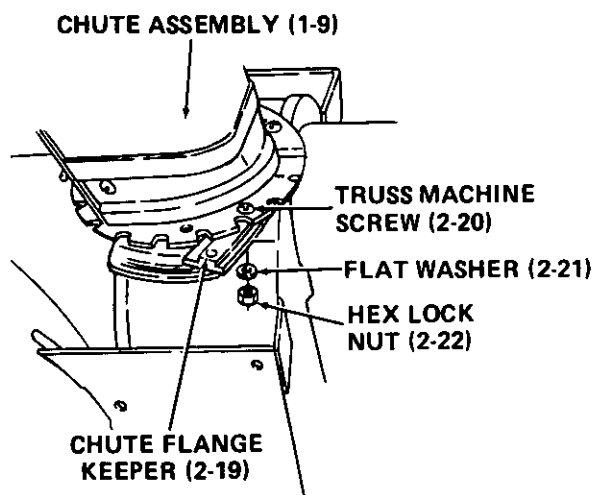

Figure 37
11. Install chute assembly (1-9) as follows. Refer to Figure 37.